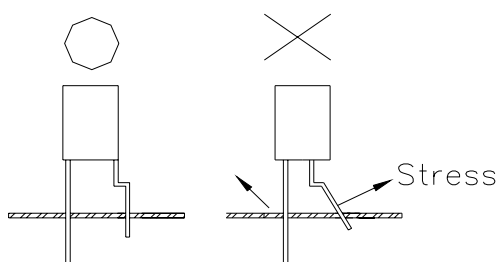

Fig.8
- 3) Form the lead to ensure alignment between the leads and the hole on board, so that stress against the LED is prevented. (Fig.8)